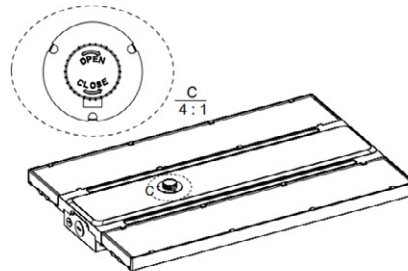

Figure 11
1. Remove the plastic cap and plug by rotating to the right with your hand. (see Fig. 11)